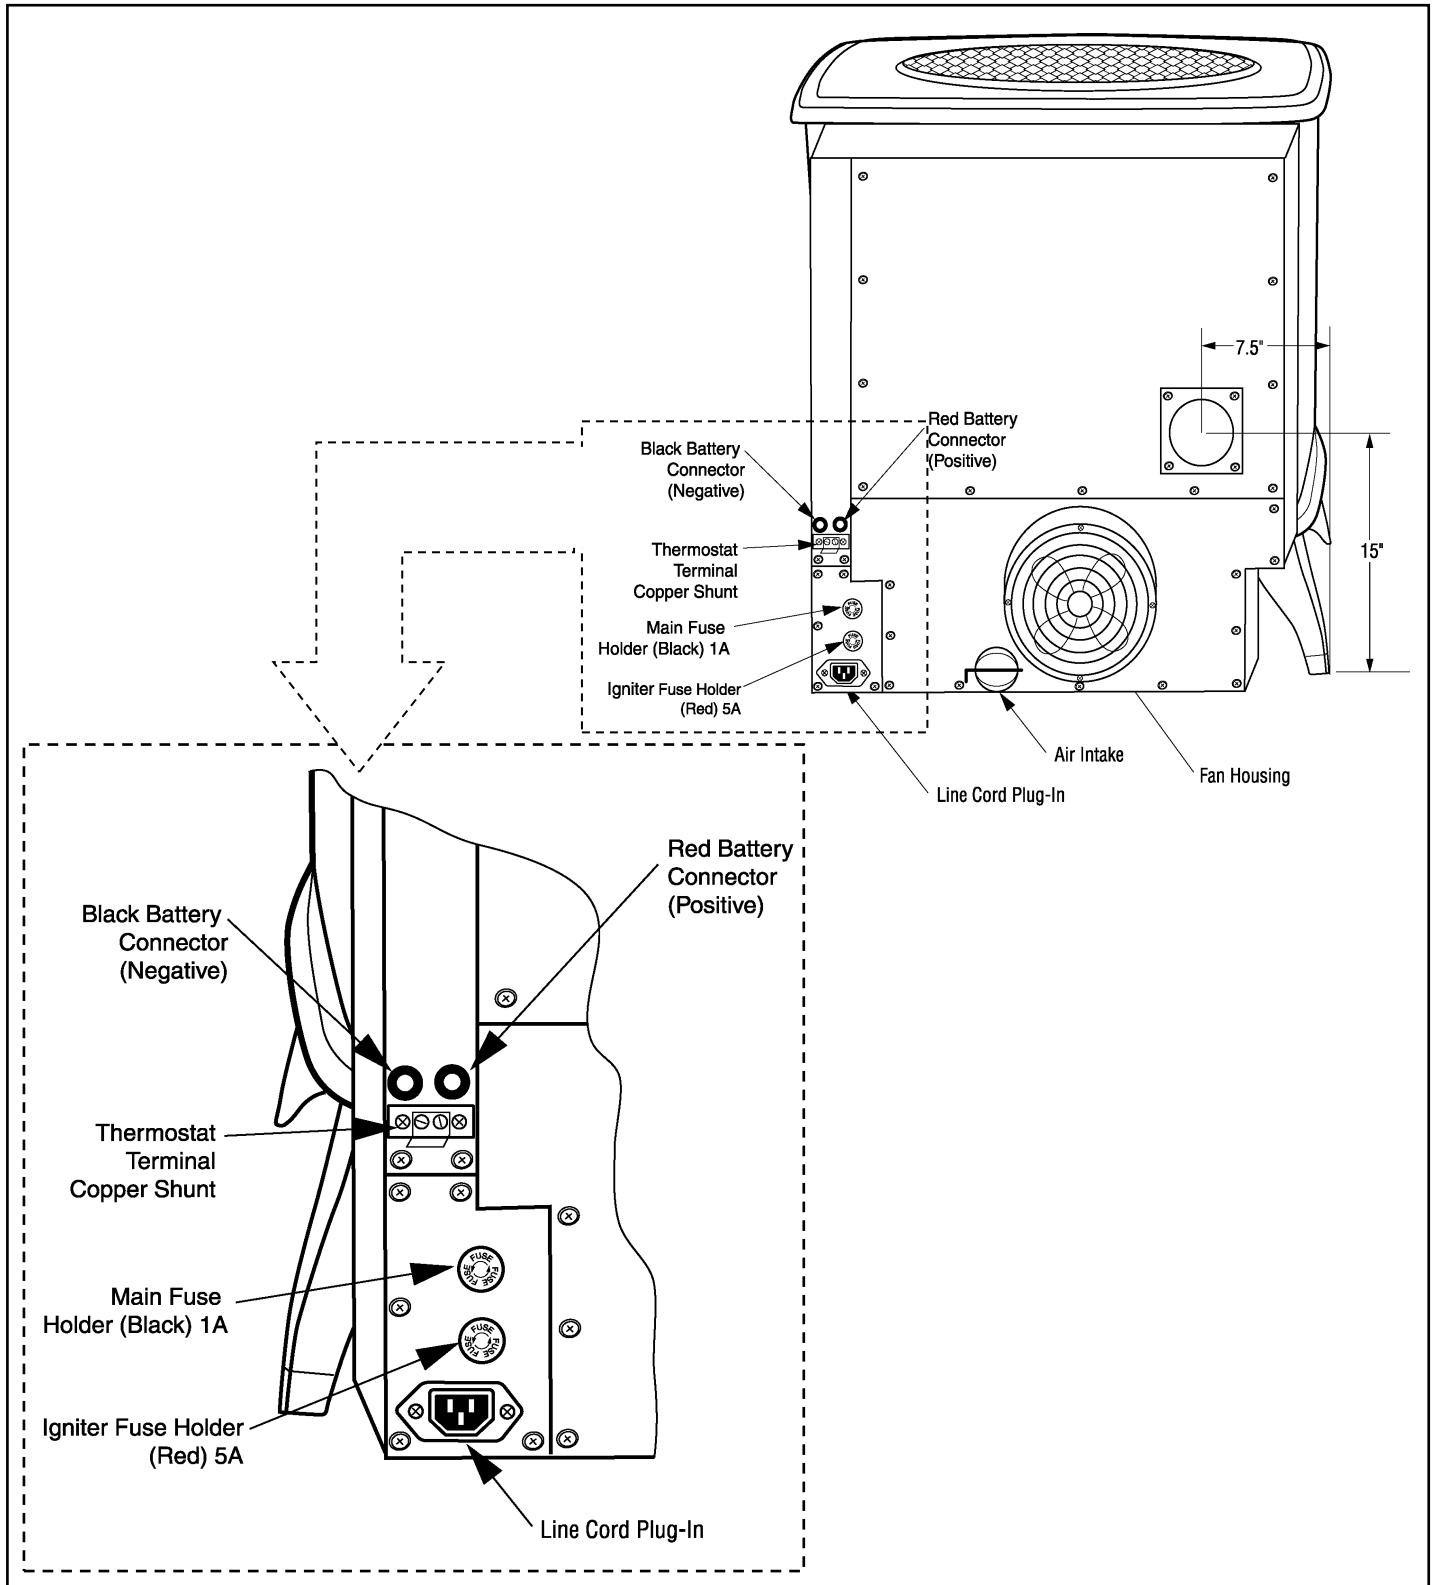

FIGURE 8
A wall or remote thermostat can be hooked to run the Echo 3000 E.I. automatically. The following is a step-by-step procedure for installing the optional thermostat. Note connection terminals on the bottom right side of the unit (see Figure 8). Use 18/2 thermostat wire for installation.
2. Hook up the thermostat wires to terminals (see Figure 8). Remember to remove copper shunt. Replace shunt if thermostat hook-up is disconnected. If a remote thermostat is used you will have to mount the "receiver" to the bottom of the stove with Velcro and then hook up receiver wires to the terminal (see Figure 8). Follow thermostat manufacturer's instructions.
If you choose to use a wall or remote thermostat follow the thermostat manufacturers instructions carefully and make sure you use the built in thermostat terminals on the bottom of the stove. (See Figure 8) We recommend you run the heater on "High" for about 30 minutes to get the heat exchanger hot before turning it to "Low." You will need to burn the heater for a few hours before deciding which setting is best for your particular needs.